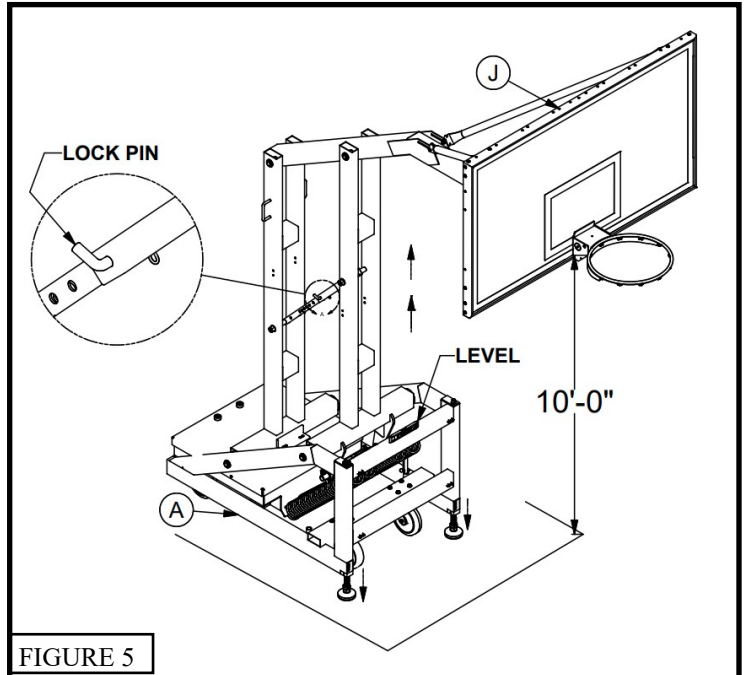

FIGURE 5
- Tighten the *Breakaway Goal Hardware* (M) making sure that the *Backboard* (J) and *Breakaway Goal* (L) are level left to right and the *Backboard* (J) is perpendicular to the floor.
- Before attaching *Backboard Braces* (E) to the unit, raise the goal to the official 10' playing position and insert the lock pin into the telescoping brace. See Figure 5.